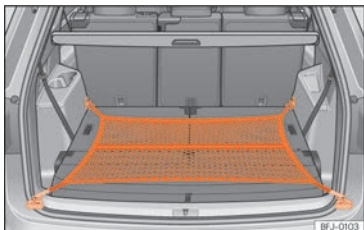

Fig. 163 In the boot: net bag hooked up at floor level.
- Secure the bag hooks to the front fastening rings »» **Fig. 163** »» ⚠. The bag zip should be facing upwards.
- Secure the hooks on the other end of the net bag to the fastening rings below the load-ing threshold »» **Fig. 163**.